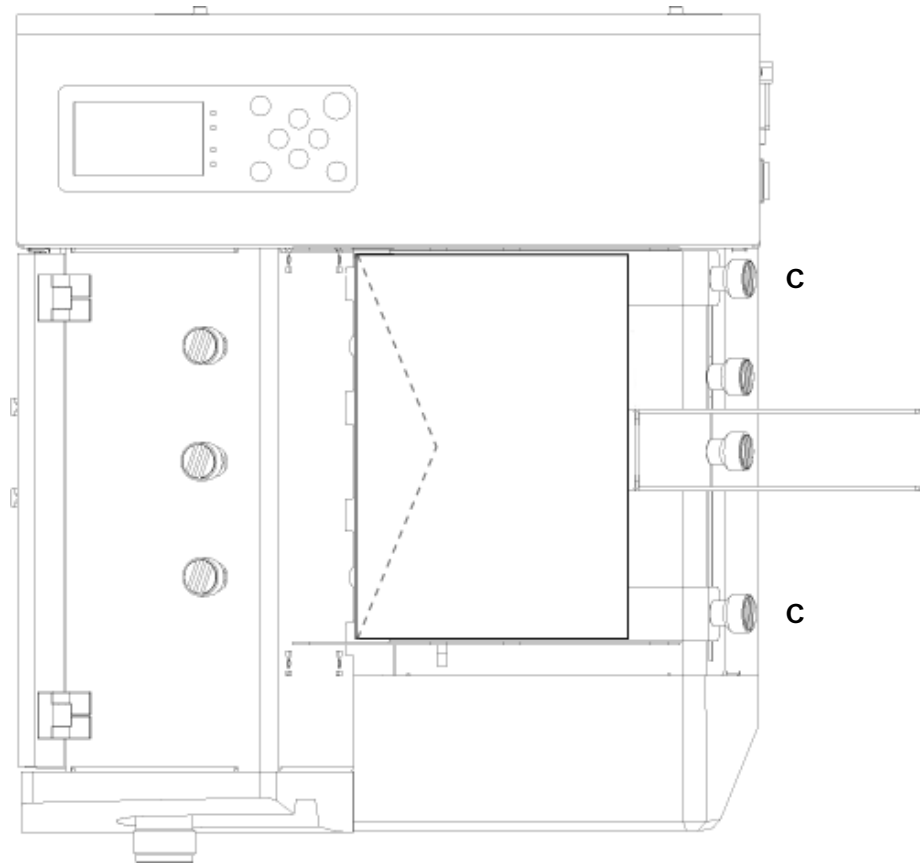

Figure 12: Paper side guide positions for C5 envelope
- Loosen the fixing screws (C) of both paper side guides (see Figure 12).
- See Figure 12 for an sample setup with a C5 envelope.